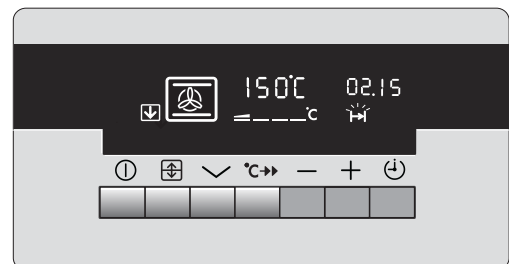

Fig.7.
- iv) To set the length of cooking time. Press the Time Selector button until the 'Cook Time' indicator neon is illuminated. Press the increase control (+) until the required length of cooking time is displayed, e.g. 2 hrs 15 mins as Fig. 7. If necessary depress the decrease control (-) until the correct time interval is achieved.